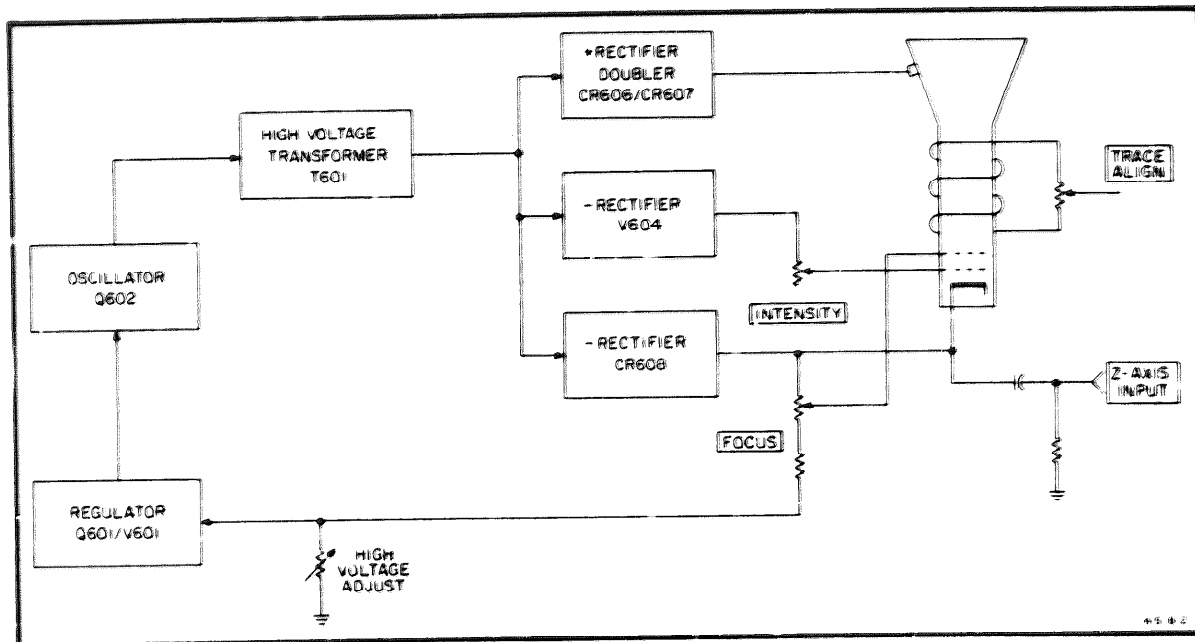

Figure 1-16. High-Voltage Power Supply Block Diagram
a. Fig. 1-16 is a block diagram of the high-voltage supply. The output of a regulated transistor oscillator is stepped up in voltage and applied to a series of high voltage rectifiers. The positive output of the voltage doubler is connected to the post-accelerator